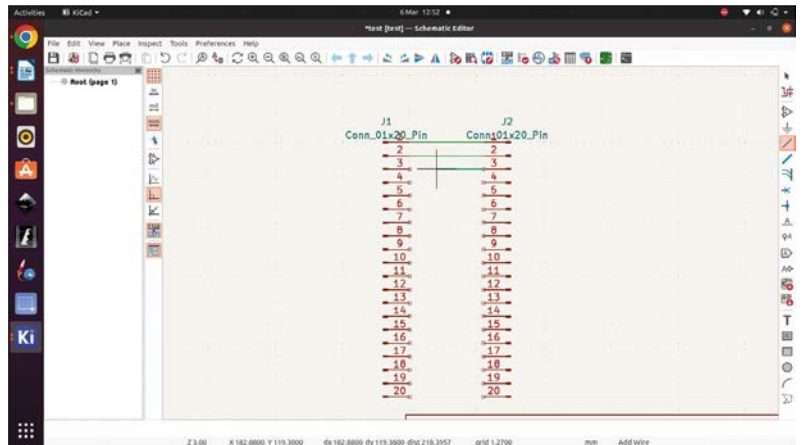

Figure 4 Adding our wire connections between the pins of the schematic symbols
Using the Add a Wire (W) tool, you can left-click on one of the connector pin circles and then draw a connector wire line across to the opposite connector pin (Figure 4). If you make a mistake, you can use **CTRL+Z** to undo the last action – or, to cancel the wire mid-draw, you can right-click and select Cancel from the drop-down menu.